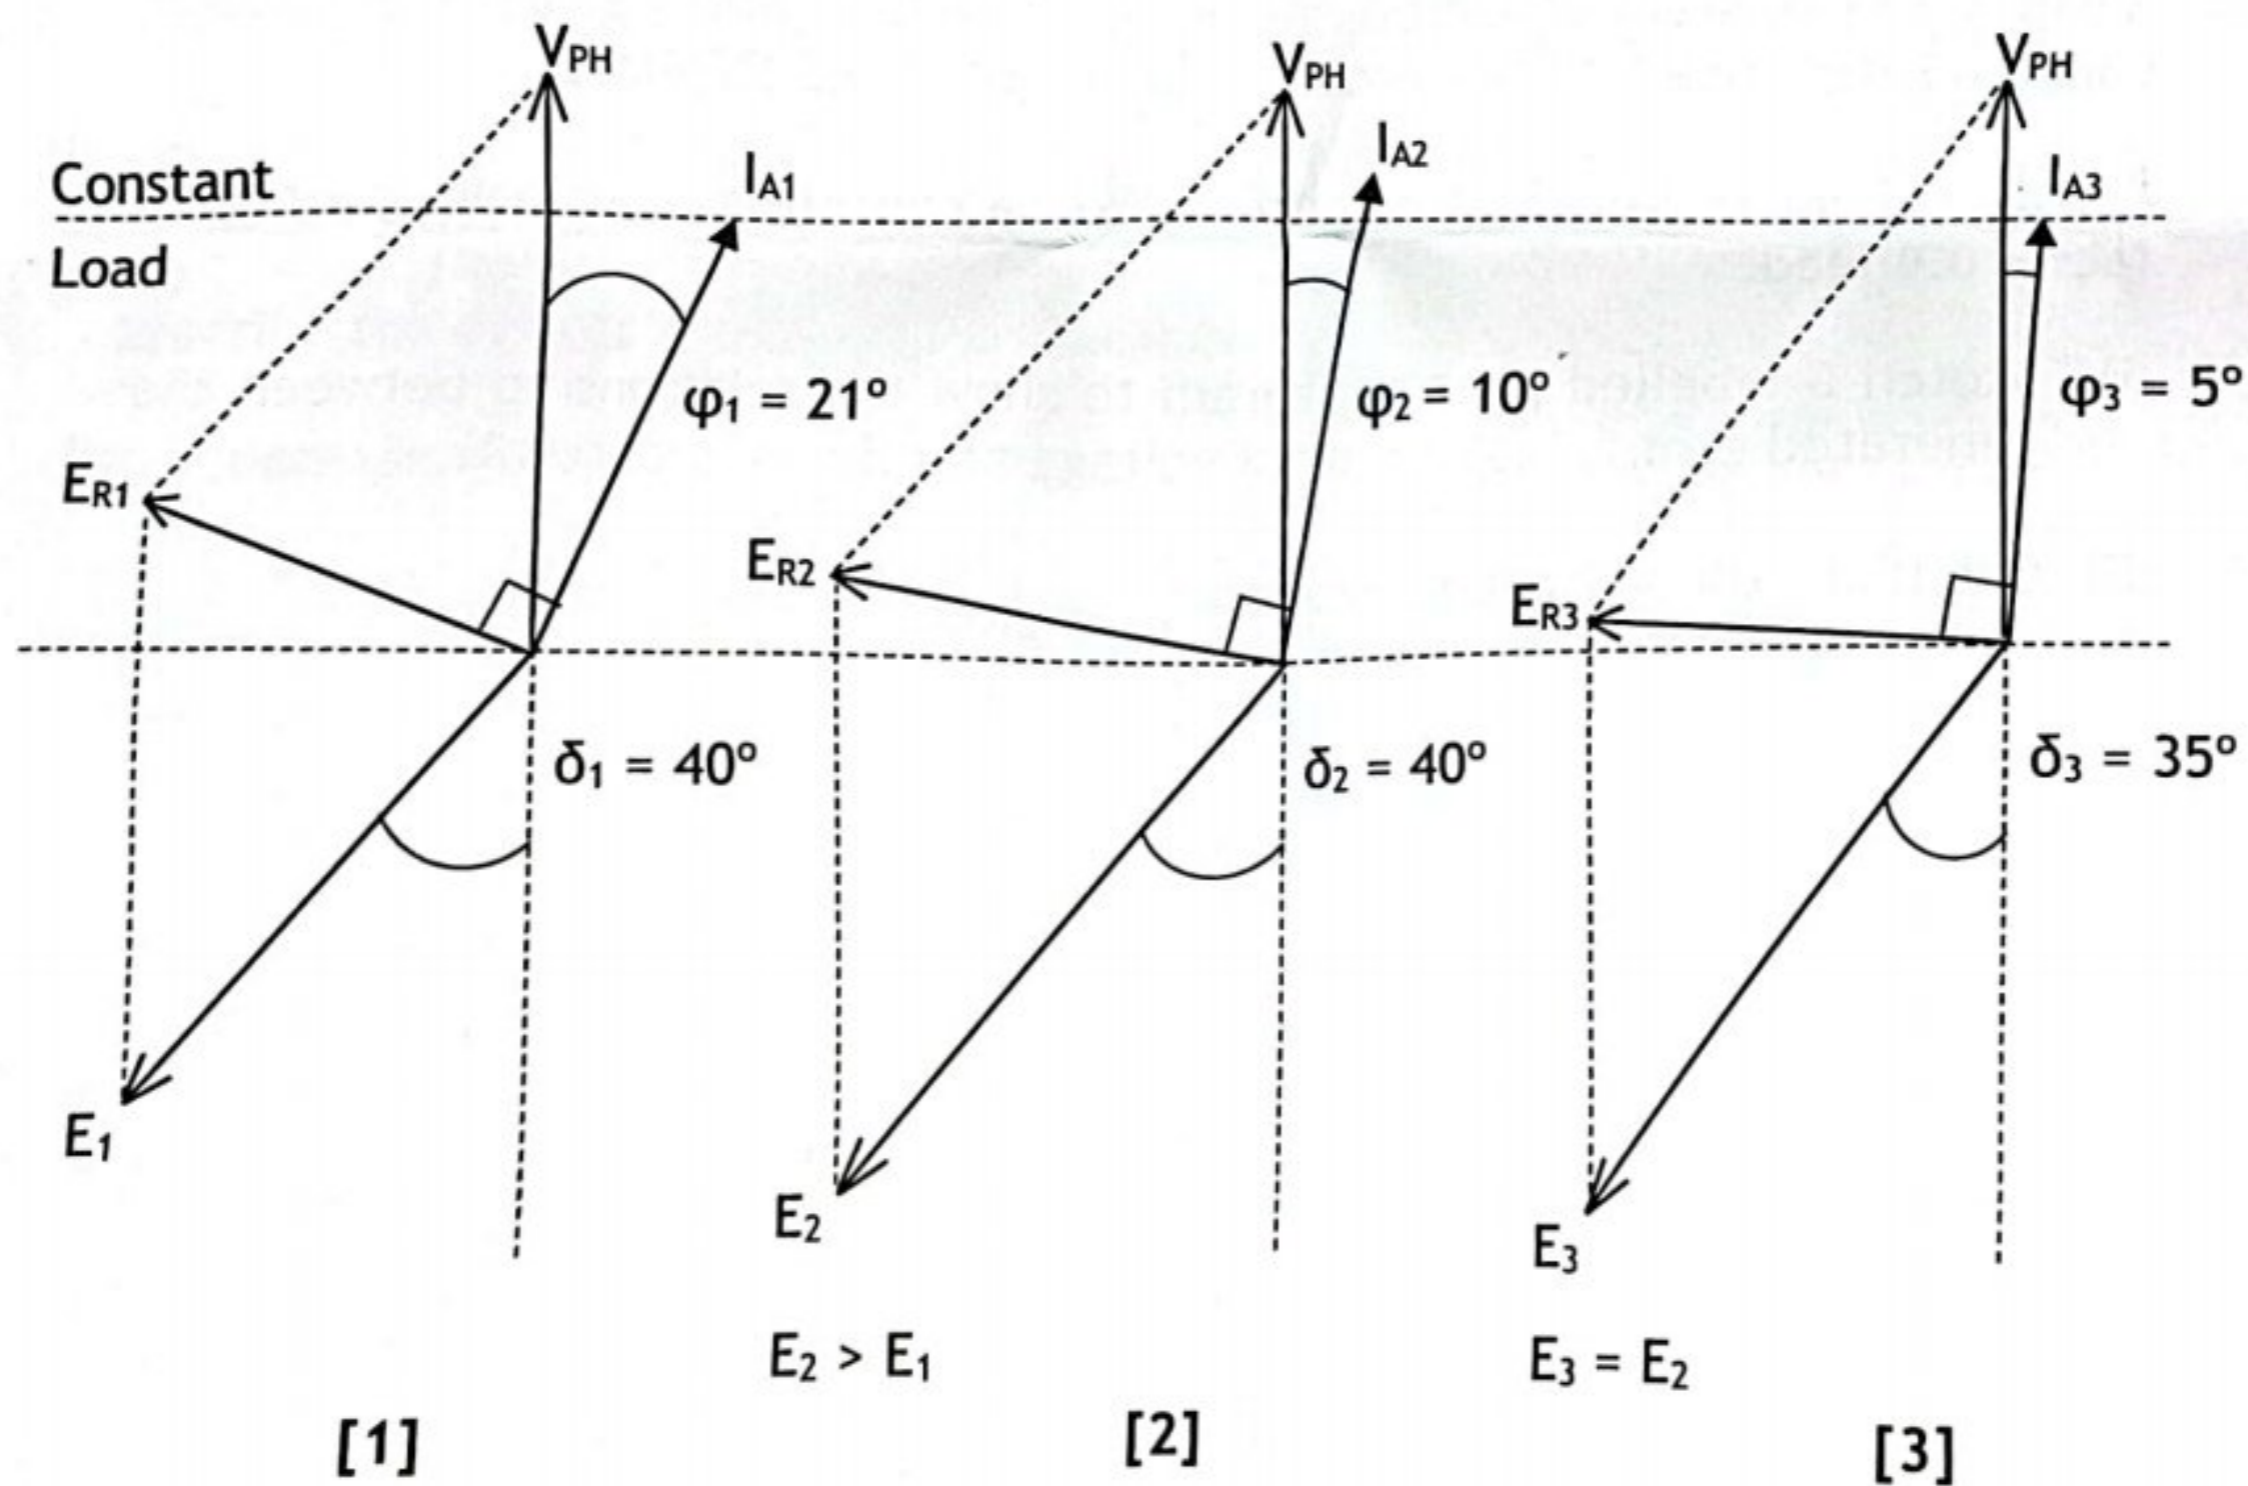

Fig Q4
4. Fig Q4 shows phasor diagrams for a 440 V, 60 Hz, 10 pole, three-phase synchronous motor with constant load when the excitation is increased: